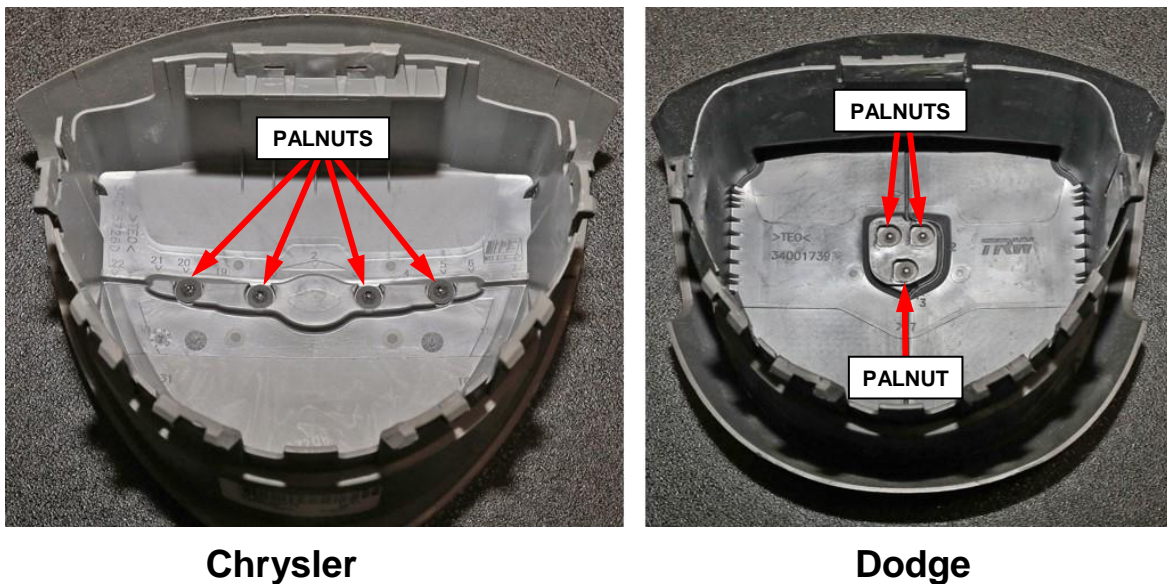

Figure 13 – Remove Cover from Cushion
IMPORTANT: Hold the inflator as it could be loose during this process. Reference cushion and inflator position prior to separating from the cover. It is not necessary to separate the inflator from the cushion (Figure 13).
- 8. The cover can be removed from the cushion by inverting the assembly and pulling back the top of the cover. The cushion and inflator should fall free from the cover (Figure 13).